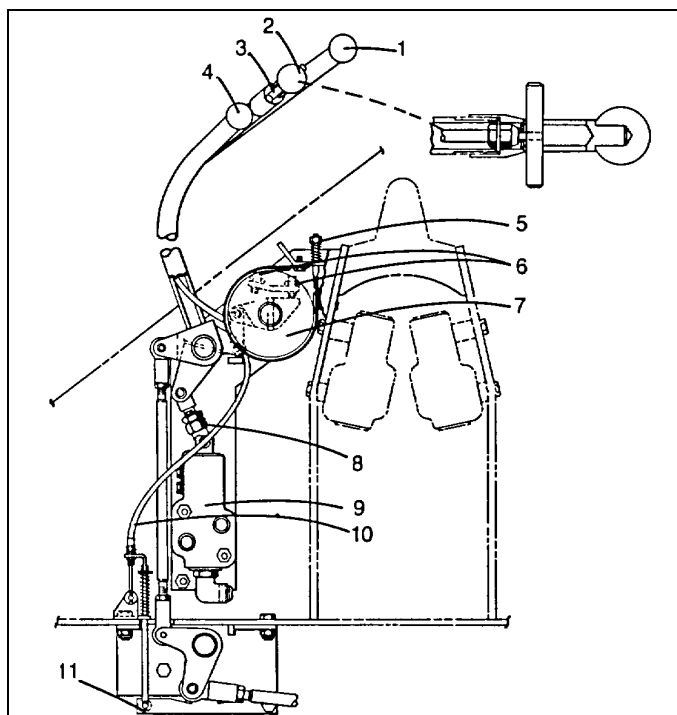

Fig. 4-3
4-7 Swing Brake Control Adjustment: (See Fig. 4-3). The brake band tension may be adjusted by tightening the spring loaded nut (5) on the band.